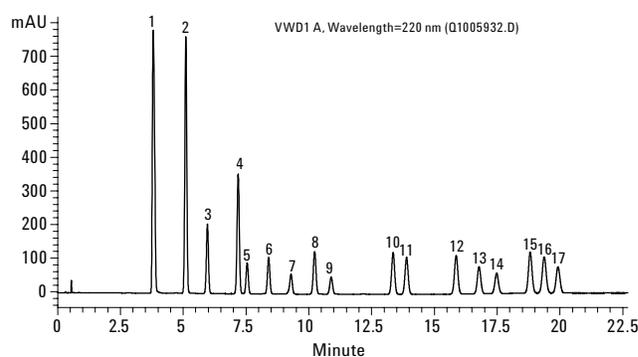

Figure 1. ZORBAX Eclipse PAH QA chromatogram.
A typical quality assurance (QA) test chromatogram for a 4.6 mm × 100 mm, 5-μm column is shown in Figure 1. The quality control (QC) test with the performance of your column is shown in the Column Performance Report enclosed with your column. You will also find a specific batch QA test with a PAH sample in the report.